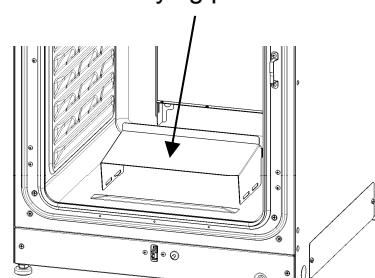

Fig. 3
4. Pull out the humidifying pan cover (Fig. 3).